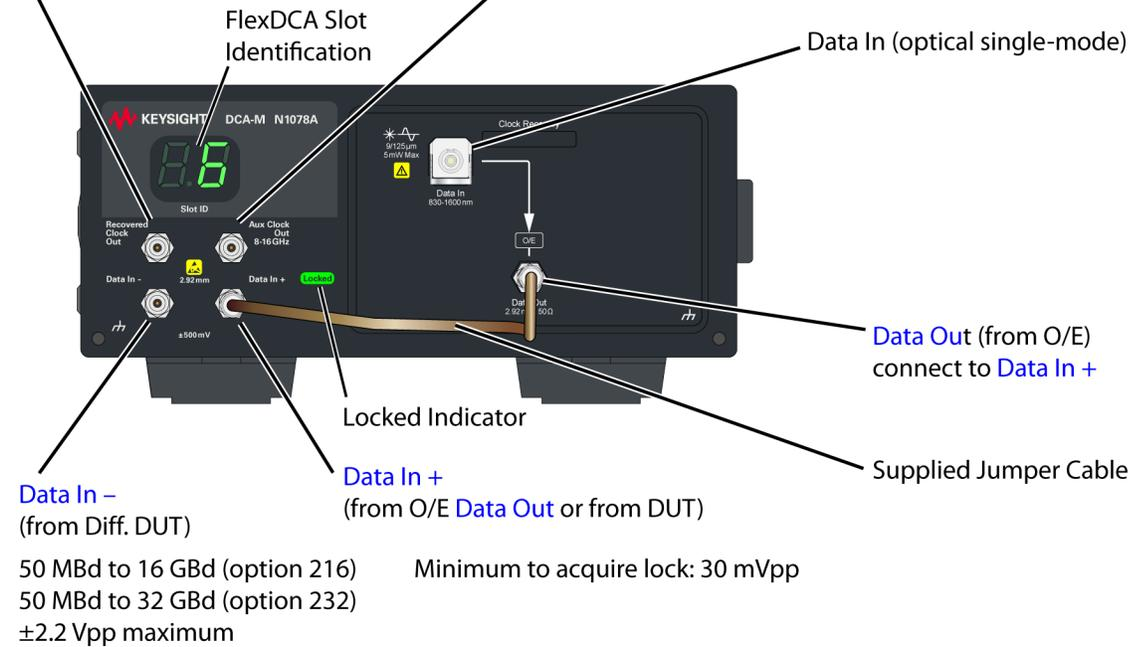
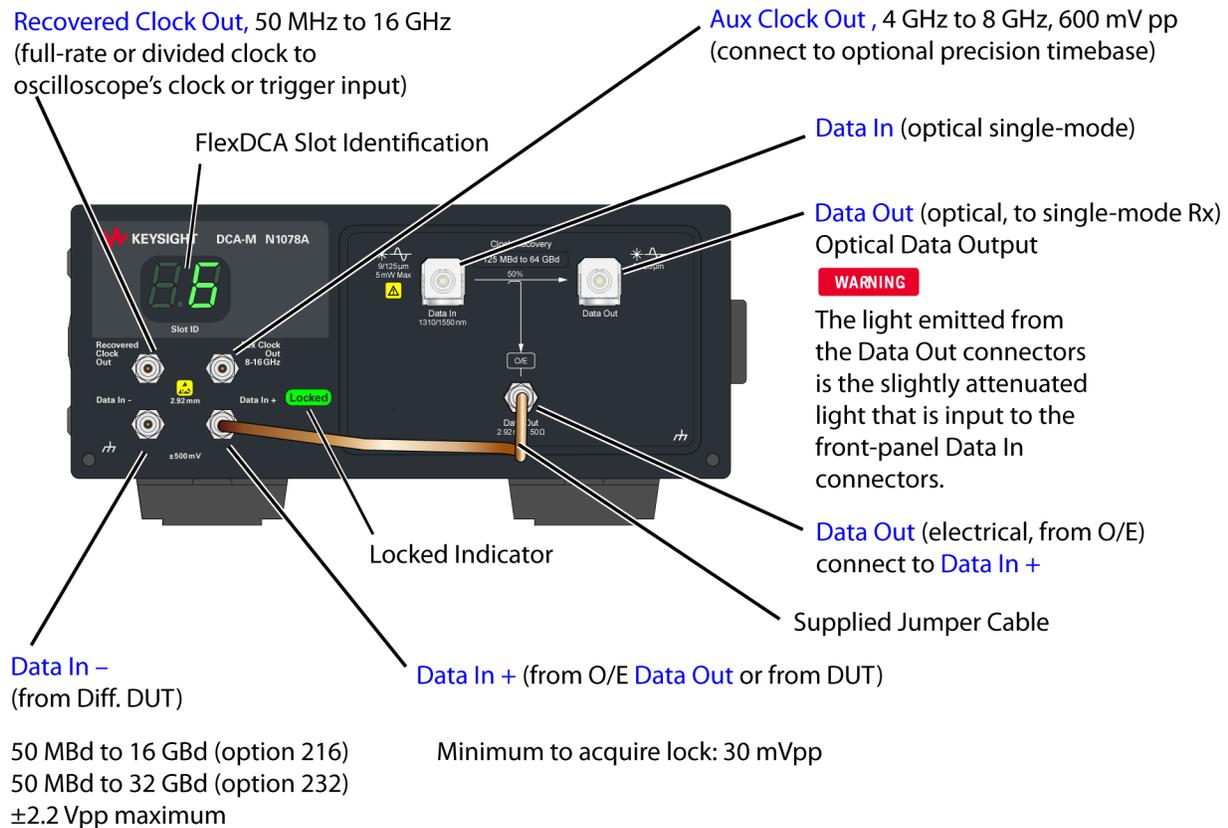

Figure 57. N1078A-SXT Front-Panel Connectors
Figure 58. N1078A- S50 Front-Panel Connectors
Figure 57 on page 107 and *Figure 58 on page 108* show the N1078A-SXT and N1078A-S50 module front-panels. Both model options have single-mode optical connectors. Option SXT modules do not have an internal optical splitter. Option S50 models include an internal optical splitter (50%). The optical internal splitter provides a slightly attenuated input signal at the optical **Data Out** connectors. This output can be used for input to a receiver module or other test equipment.
1. Confirm that the input signal meets the baud rate and amplitude requirements shown in *Figure 58 on page 108*. In this procedure, the following assumptions are made for simplicity. You can change these parameters to any acceptable values.
- b. Connect the supplied semi-rigid coaxial jumper cable between the front-panel **Data Out** and **Data In +** connectors as shown in *Figure 58 on page 108*.